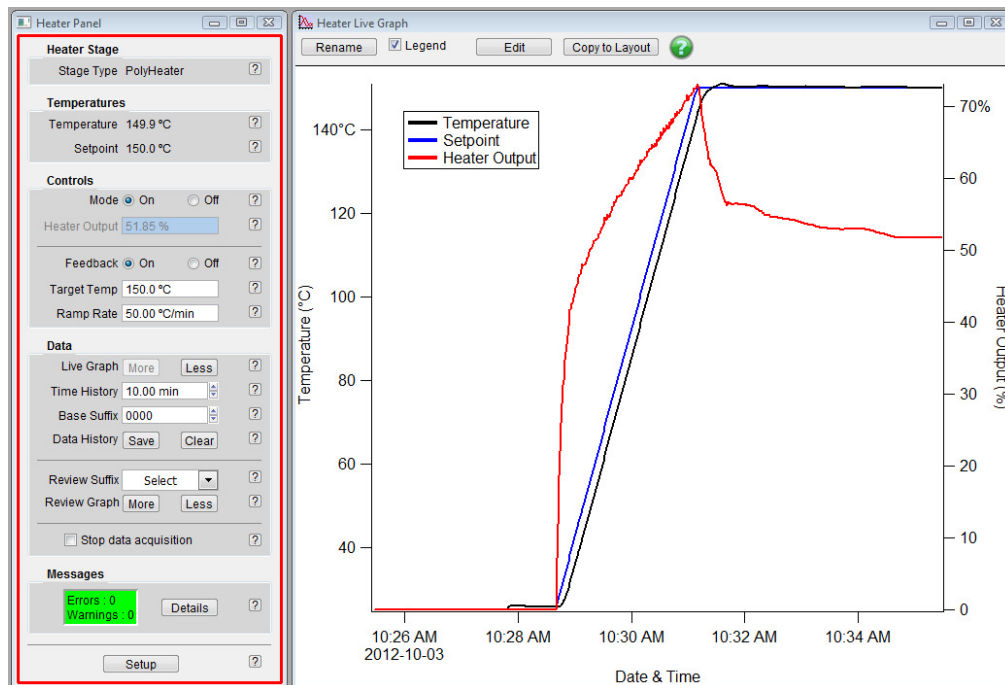

Figure 25.3.: Test of the polymer heater. What you might expect to see.
6. Watch the temperature rise on the history graph. An example of what you might see is in Figure 25.3 on page 347.
When the temperature setpoint is changed, the materials inside the polymer heater will thermally expand and contract. Asylum Research has tried to minimize these effects through careful choices of materials and design geometry. Nevertheless, images taken while the temperature is changing will experience thermal drift. Looking at Figure 25.3 on page 347 you can get an idea of the period during which thermal drift will be worst. Certainly while the temperature is changing, expect some thermal drift effects. Note that once the temperature setpoint is reached, the heater power does not immediately reach a steady state. It slowly tapers off during the next 5-10 minutes. During this period the low thermal conductivity materials surrounding the sample are slowly heating up. You can also expect thermal drift effects during this period.